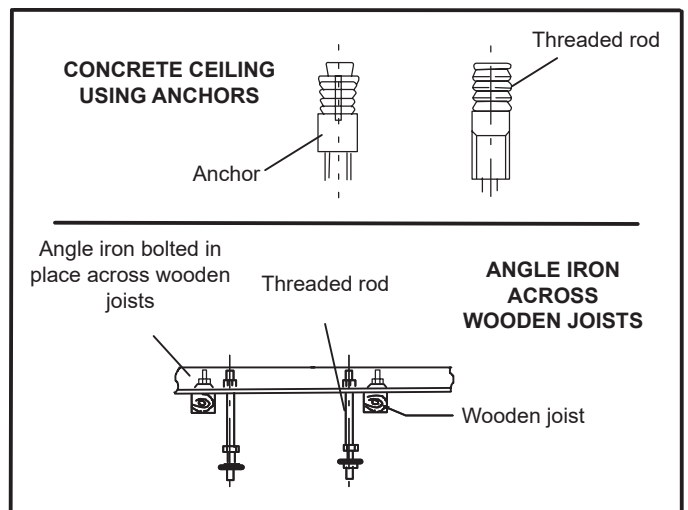

Figure 5. Locate Threaded Rods
- Install suspension rods in the structural ceiling or concrete slab in a suitable location. If the structural ceiling is constructed of concrete, install anchors to accept four suitably sized threaded rods to suspend the indoor unit. If the structural ceiling includes wooden joists, use angle iron or Unistrut channel fixed securely in place to accept the threaded rods. **NOTE** - Threaded rod (requirement of Lennox warranty program) is the ONLY acceptable method of suspending the unit; do not use chains or straps. See Figure 5.